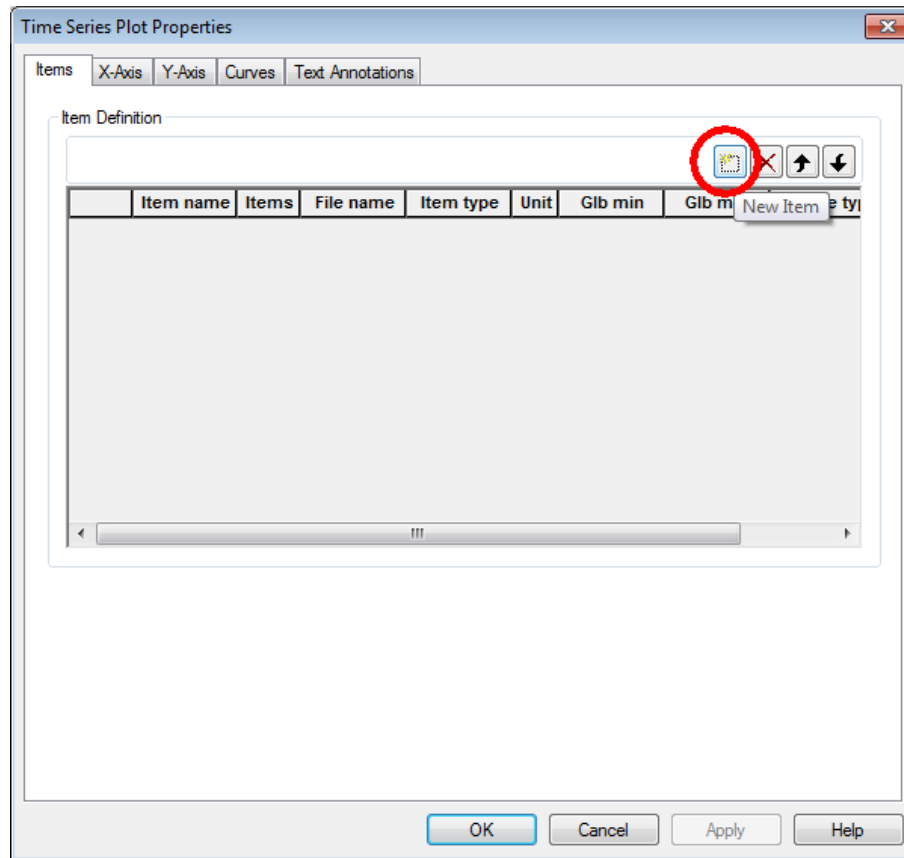

Figure 2-25 Add new time series to plc plot
6. Click on 'New Item', cf. Figure 2-25.